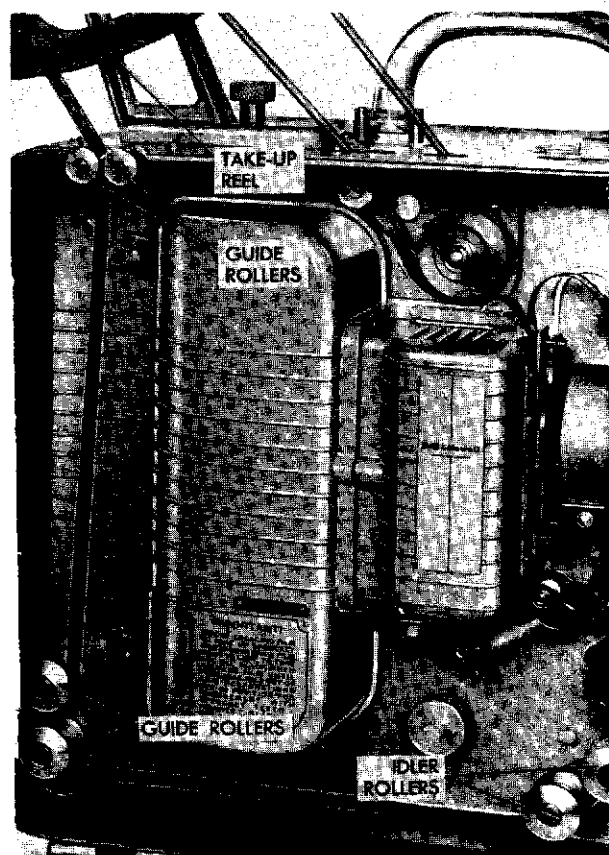

Figure 1-19. Film Path to Take-up Reel
i. From the take-up sprocket, pass the film around the right side of both floating idler rollers and to the left across the bottom of the case to the two guide rollers (figure 1-19). Pass the film around the left side of the lower film guide roller and around the right side of the upper film guide roller. From here the film is passed upward and between the two film guide rollers at the top of the case, then to the left side of the empty take-up reel. Guide the film up and around the hub of the take-up reel in a clockwise direction and engage the free end of the film securely to the slot in the reel hub. The reel must take up film as it revolves in a clockwise direction.